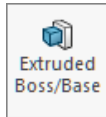

**Fig. 2**
Step 4. Sketch a circle starting at the Origin , **Fig. 2**.
Step 5. Click **Smart Dimension**  (S) on the Sketch toolbar.
Step 6. Dimension circle **diameter 3**, **Fig. 2**.